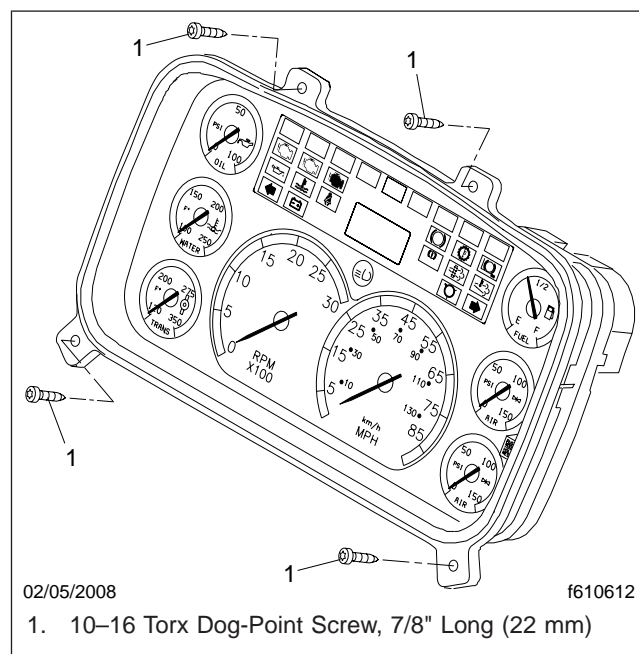

Fig. 3, ICU3-M2 Installation
5. Remove the four screws securing the ICU. Carefully remove the ICU from the dash. See Fig. 3.